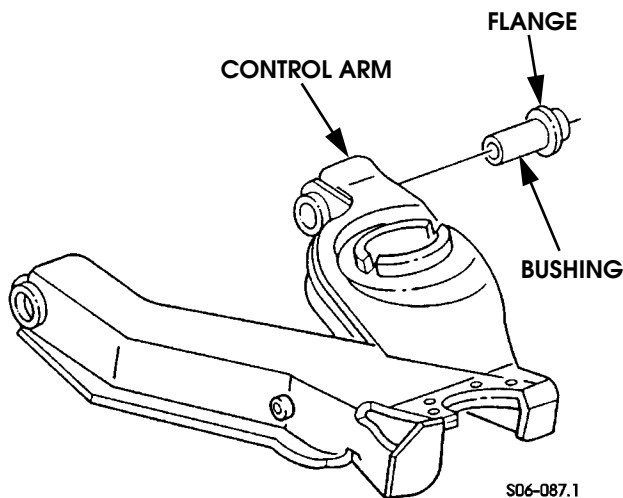

Figure 9-9: Control Arm Bushing Replacement
NOTE: Control arm bushings must be replaced as a set (Figure 9-9).
2. Insert bushing in control arm (Figure 9-9).